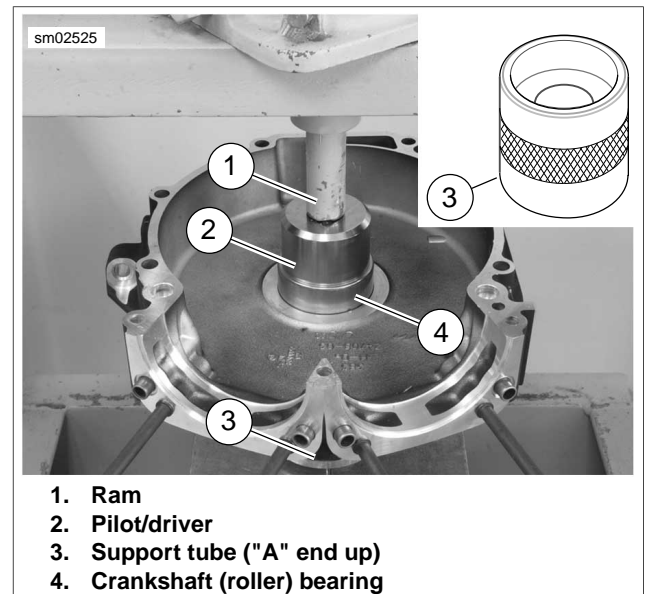

Figure 3-137. Left Crankshaft (Roller) Bearing Installation
2. See Figure 3-137. Obtain **new** crankshaft (roller) bearing (4). Place a thin film of clean engine oil on outer diameter of bearing.
3. Place support tube (3) on hydraulic press table with the "B" end up.
6. Slide pilot/driver (2) and adapter through bearing into support tube.
7. Center pilot/driver (2) under ram (1) of press. Apply pressure to pilot/driver until bearing is lightly bottomed in crankshaft bearing bore.